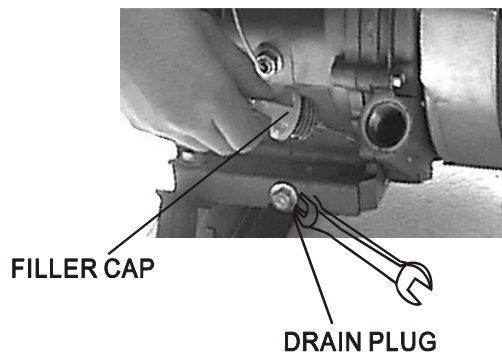

Figure 15- Draining oil
2. Using a 10 mm hex wrench, unscrew the oil drain plug (see figure 15). Allow all the oil to drain from the engine.